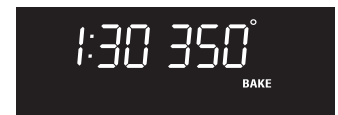

Fig. 1
3. Press , "**350°F**" will appear in the display (See Fig. 1).